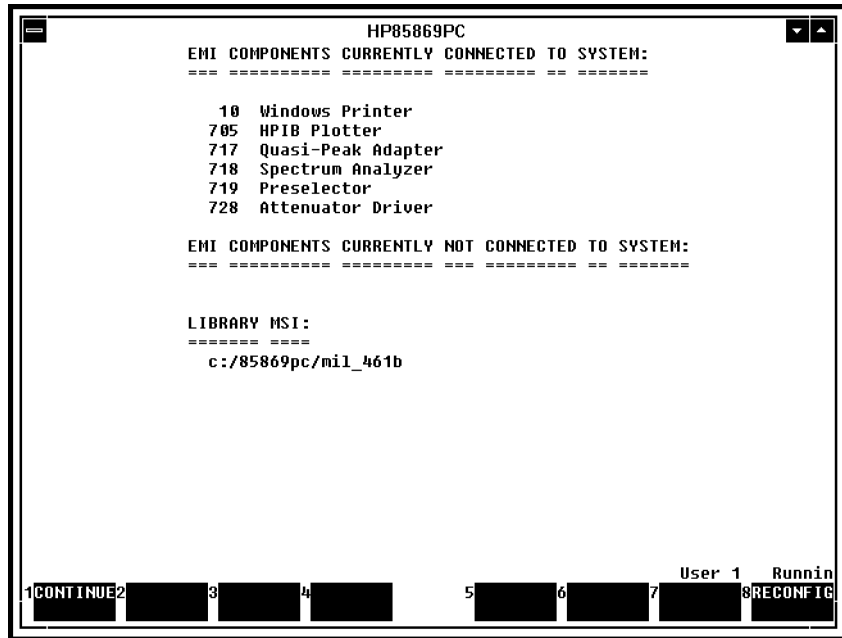

Figure 4-2. Configuration Display
5. Review the EMI components “currently connected to system” to determine if they are correct. (See Figure 4-2.) If they are, press **CONTINUE**. Otherwise, use the **RECONFIG** softkey to access the menu for reconfiguring the instrument addresses of your EMI components. For more information, refer to “Verifying Your System Configuration” later in this chapter and “Reconfiguration” in Chapter 9 in Chapter 9.
The LIBRARY MSI listing in Figure 4-2 may be blank depending on the way that your system is configured. If you must designate a directory to be used for library operations, perform the procedure “Designating a Library MSI” later in this chapter.
In order to access the test, data, transducer, receiver correction factors gain/loss, limit, or report libraries, the disk drive and directory path containing these files needs to be specified. The LIBRARY MSI listing that is shown during verification of your system configuration contains this specification. See Figure 4-2.